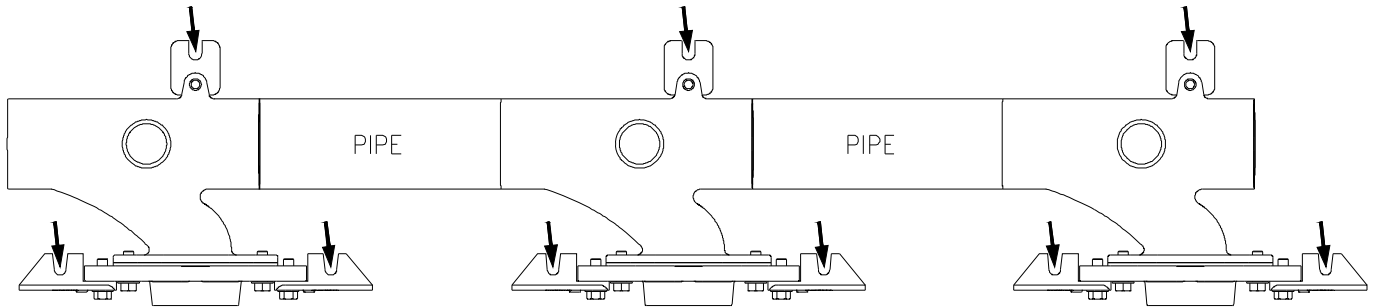

Fig. 9
9. Align the carrier bank assembly with the waste line rough-in and mark the correct locations on the concrete floor for the anchoring studs. See Fig. 9